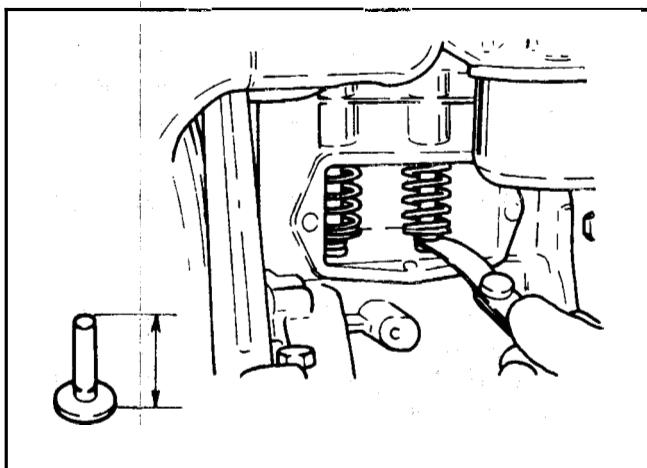

Figure 6
- Measure the valve clearance with the engine cold and on top dead center (TDC) of the compression stroke. See Figure 6.